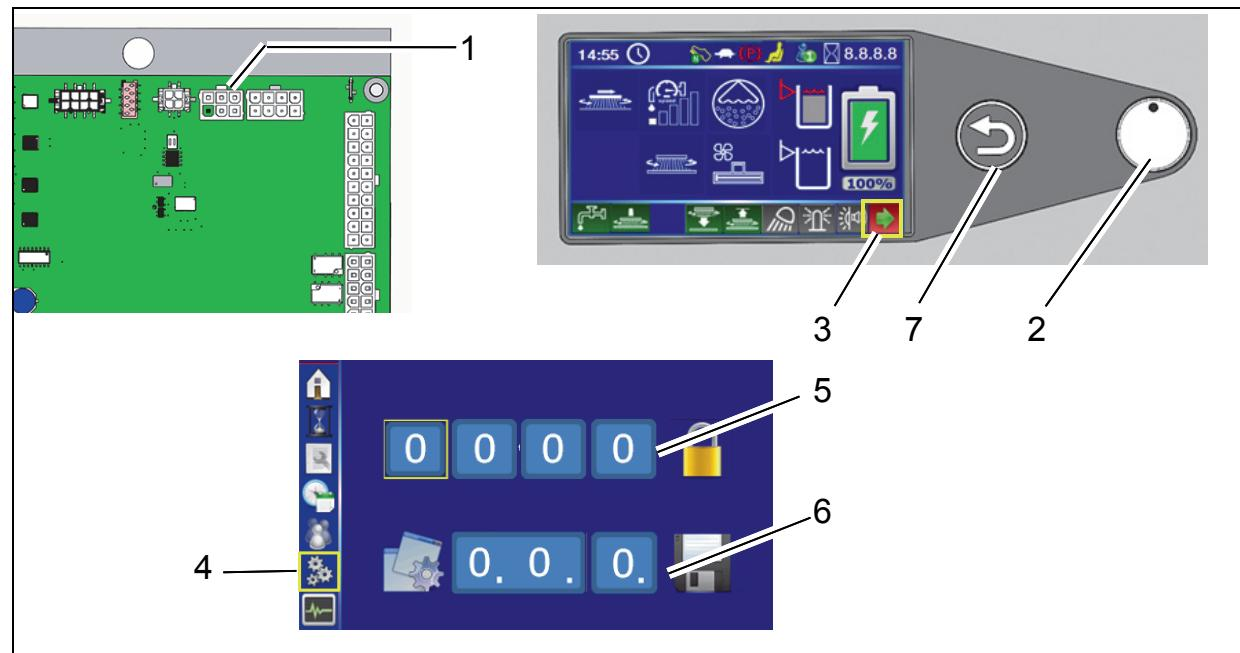

Fig. 3
2. Select the arrow softkey (Fig. 3/3) on the control panel using the turn-push knob (DDS) (Fig. 3/2) and press to access the sub-menu.
3. Select the configuration menu in the sub-menu (Fig. 3/4).
4. Enter the 4-digit code in the configuration menu at the top (Fig. 3/5):
5. Select the value of the option under (Fig. 3/6) in the configuration menu and save by pressing the DDS. After confirmation of the final digit, OK? appears. Press the DDS again to save the value. The saved value is now displayed in green. If the value is not to be saved, exit the menu using the return button (Fig. 3/7).